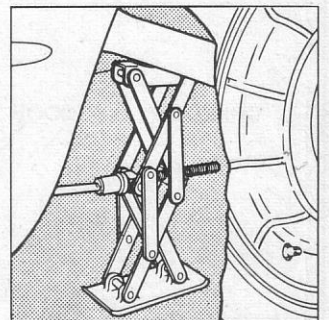

Fig. 2—Placing Jack for Rear Tire Change
- b. At rear wheel, place jack under rear axle housing near rebound strap (fig. 2).